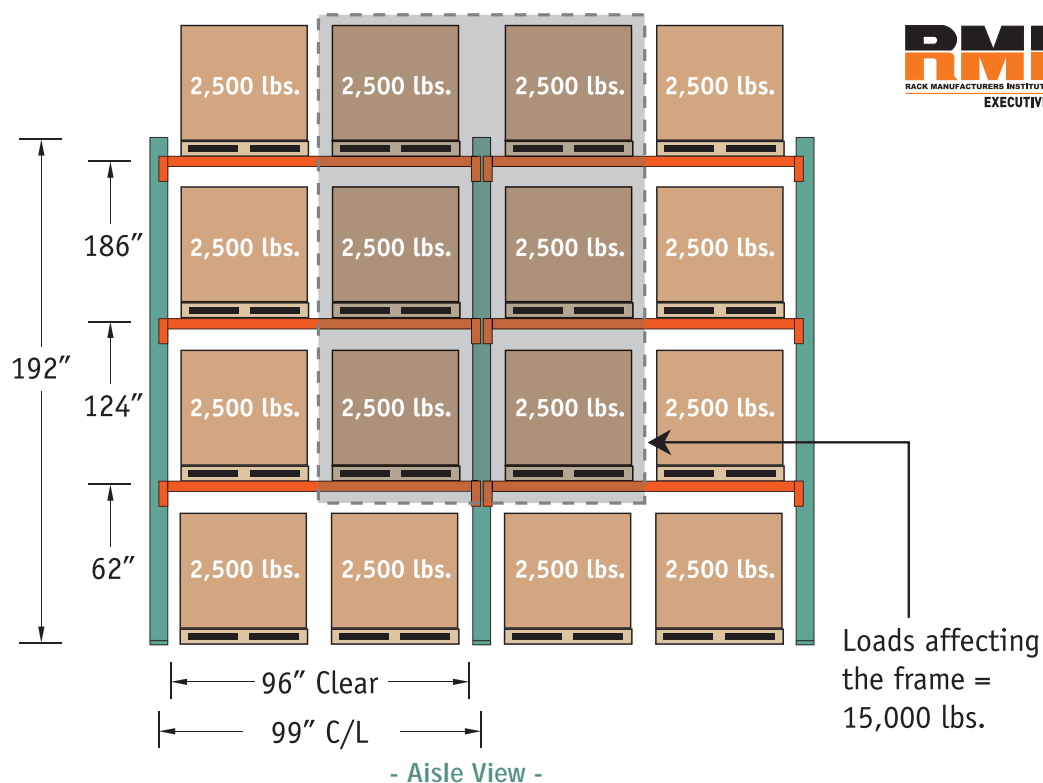

Figure 3.
- Determine the frame capacity necessary. Total the weight of all pallet loads that will affect one frame. This will be all pallet loads on either side of the frame, up to the center points of the beams (See figure 3 below). Determine the height of the largest pallet opening in the system (usually floor to first beam, but occasionally beam-to-beam above that). Now, using the Frame Capacity Chart, select the appropriate frame model.